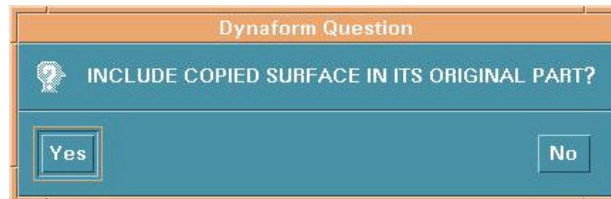

Figure 6.2.4 Copy Question
- Select YES or NO in the DYNAFORM Question window, see Figure 6.2.4.